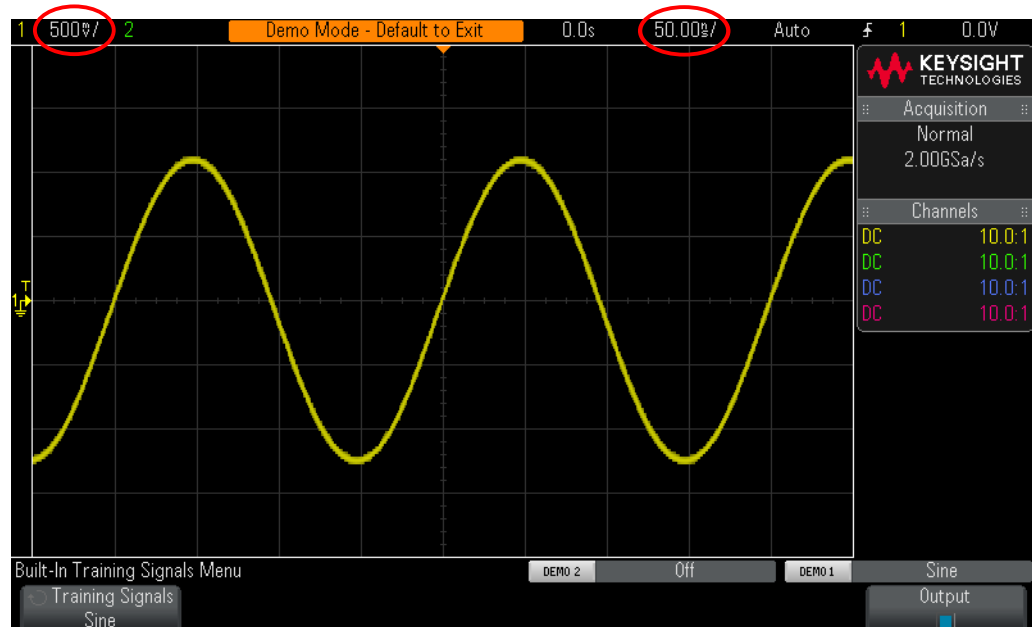

Figure 9 Initial setup to view the sine wave training signal
- 8 Turn the s/div knob (large knob in the Horizontal section) clockwise until you observe more than two periods of a sine wave across the display. The correct setting should be **50 ns/div**, which is displayed as "50.00ns/" near the middle of the top part of the display. Your scope's display should now appear similar to **Figure 9**. From this point forward we will simply refer to this as the scope's "timebase" setting.